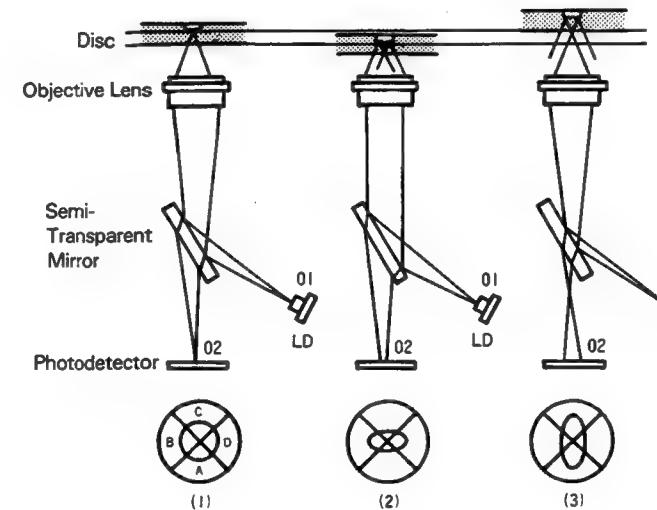
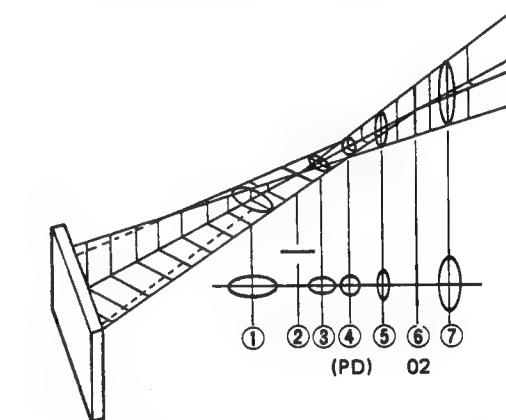
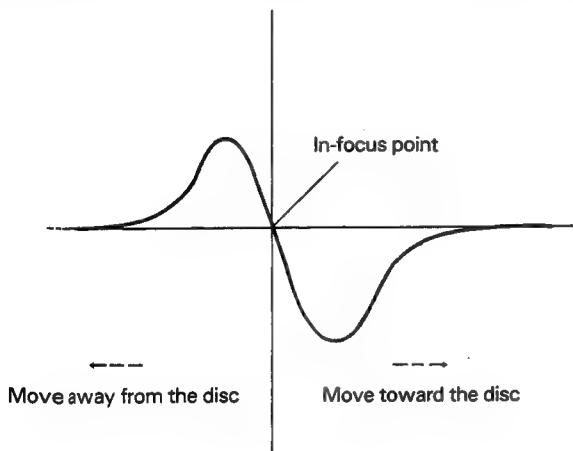

Fig. 12-3 Beam Focus on the Disc Surface
Fig. 12-4 Semi-Transparent Mirror
Fig. 12-5 The S-Shaped Curve
Fig. 12-3 shows how focus detection works. In (1), the light reflecting back through the objective lens forms a circle which touches all four photodetectors (labeled A through D) equally and signifies that the disc is in focus. The reflected pattern on the photodetectors forms an oval on the four photodetectors when there is a focus error. In (2), the disc is too close to the lens and in (3), the disc is too far. (The diffraction grating has been omitted from the figure for simplicity sake since it is not directly related to the focus signal and correction process.)
Fig. 12-4 displays the optical characteristics of the semi-transparent mirror. The lens affects only the vertical direction of the figures and not the lateral direction.
① through ⑦ in Fig. 12-4 show the beam shapes at varying distances from the semi-transparent mirror. Between the straight lines ② and ⑥ is the perfect circle ④. ⑥ corresponds to point (2) in Fig. 12-3. In order to make Fig. 12-4 coincide with Fig. 12-3 (1) to yield a circular beam shape, the photodetector must be set at ④. The beam shape in Fig. 12-3 (2) corresponds to a photodetector position in 12-4 that is relatively closer to the semi-transparent mirror, at about ③, with a horizontally elongated beam shape.
gated oval shaped beam. Conversely, Fig. 12-3 (3) corresponds to a photodetector position at around ⑤ with a vertically elongated oval.
The possible beam shapes that hit the photodetector are shown in Fig. 12-3. The focus signal is derived by simple arithmetic based on the signals from the four photodetectors:  $(A + C) - (B + D)$ .
When the objective lens is too near or far from the disc track surface most of the light does not reflect back to the photodetector. When the light that reflects back to the photodetector hits each of the four photodetectors uniformly, the focus signal is 0. When the objective lens moves too far from the disc surface it reflects a vertically elongated oval beam pattern like that of ⑦ in Fig. 12-4 on the photodetectors. In terms of the arithmetic for the focus signal,  $(A + C) > (B + D)$  and the focus signal is a plus figure. As the lens moves closer to the disc to correct focus, the beam shape reaches its peak (a vertical line) at ⑥ and the lens continues to move away from the disc surface until  $(A + C) - (B + D) = 0$  and the beam reflects a perfect circle on the photodetectors. Conversely, when the objective lens is too close to disc surface, a horizontally elongated oval beam will fall on the photodetector. In terms of the focus signal  $(A + C) < (B + D)$  is a minus figure. As the objective lens moves away from the disc, it passes the horizontal line peak at ② and continues until the focus signal is 0. Fig. 12-5 graphs the typical S-shaped curve derived from the  $(A + C) - (B + D)$  focus signal.